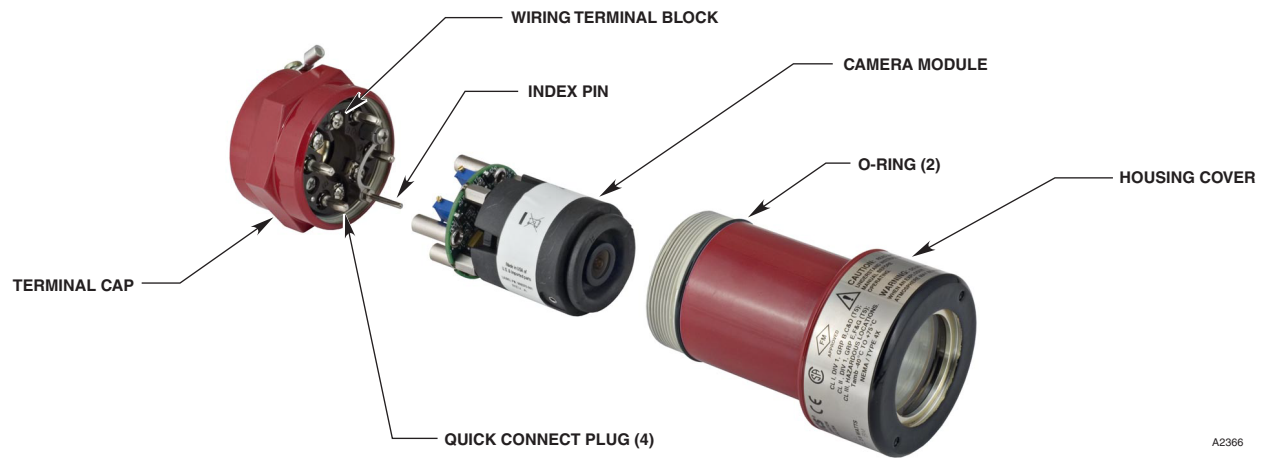

Figure 5—Exploded View of xWatch Camera
1. Disassemble the enclosure by turning the housing cover counterclockwise. See Figure 5 for an illustration of the camera assembly.
1. Remove the housing cover from the xWatch Camera. See Figure 5.
1. Disassemble the enclosure by turning the housing cover counterclockwise. See Figure 5 for an illustration of the xWatch Camera assembly.